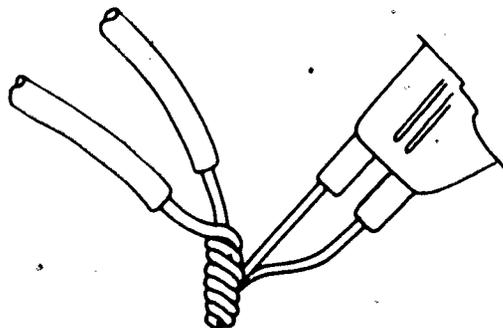

FIGURE 2
F. Put gun tip on underside of splice to heat it (Figure 2)